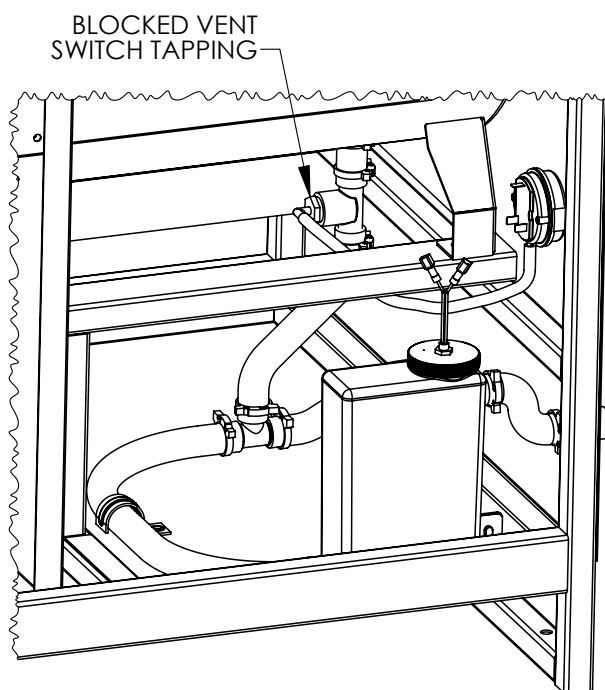

Figure 6.1: Condensate Trap System
2. Figure 6.1 shows the components of the condensate system.